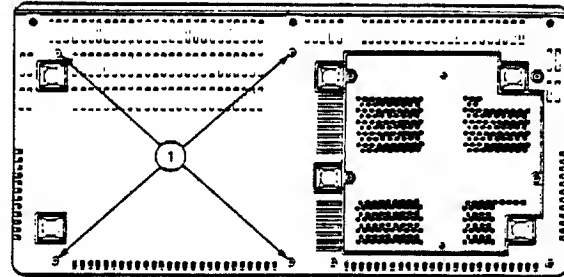

FIGURE 13
3. Turn the ProFile over and rest it on a foam pad. Remove the four screws that hold the power supply onto the bottom of the ProFile case (Figure 13, #1).